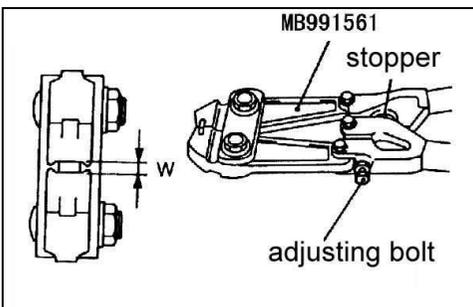

Fig.12-34
⑤ Turn the adjusting bolt on the special tool so that the size of the opening(W) is at the standard value.(see Fig.12-34)